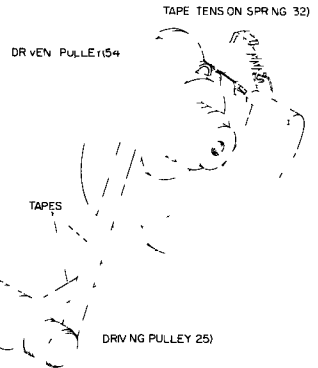

FIGURE 15 Reverse Action Units
4. **Direct Action Units Only** Wrap tape with hole for spring twice around drive pulley and hook spring (32) into end of tape. Place other end of spring over tab provided on driven pulley as shown in Figure 15. Wrap remaining tape once around drive pulley in opposite direction. Slip end of tape over tab provided on driven pulley. Make certain that tapes are tight.
Reverse Action Units Only Wrap tape which was connected to spring, $\frac{3}{4}$ of a turn around drive pulley and reconnect spring (32) by passing one end thru end of tape and hooking other end in reverse direction over spring tab provided on driven pulley. Remaining (outside) tape is wound 3 turns around output pulley and slide in reverse direction over tab on driven pulley (Figure 15). Make certain that tapes are tight.
Reverse Action Units Only Wrap tape which was connected to spring, $\frac{3}{4}$ of a turn around drive pulley and reconnect spring (32) by passing one end thru end of tape and hooking other end in reverse direction over spring tab provided on driven pulley. Remaining (outside) tape is wound 3 turns around output pulley and slid in reverse direction over tab on driven pulley (see Figure 15). Make certain that tapes are tight.